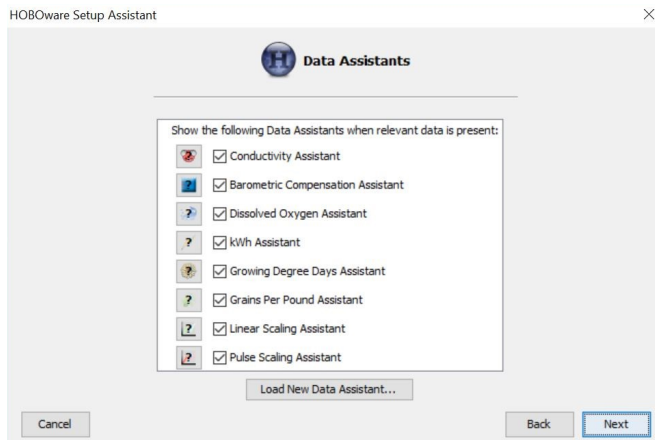

Figure 24. Data Assistant List
14. A list of Data Assistants (Fig. 24) will appear, click NEXT.